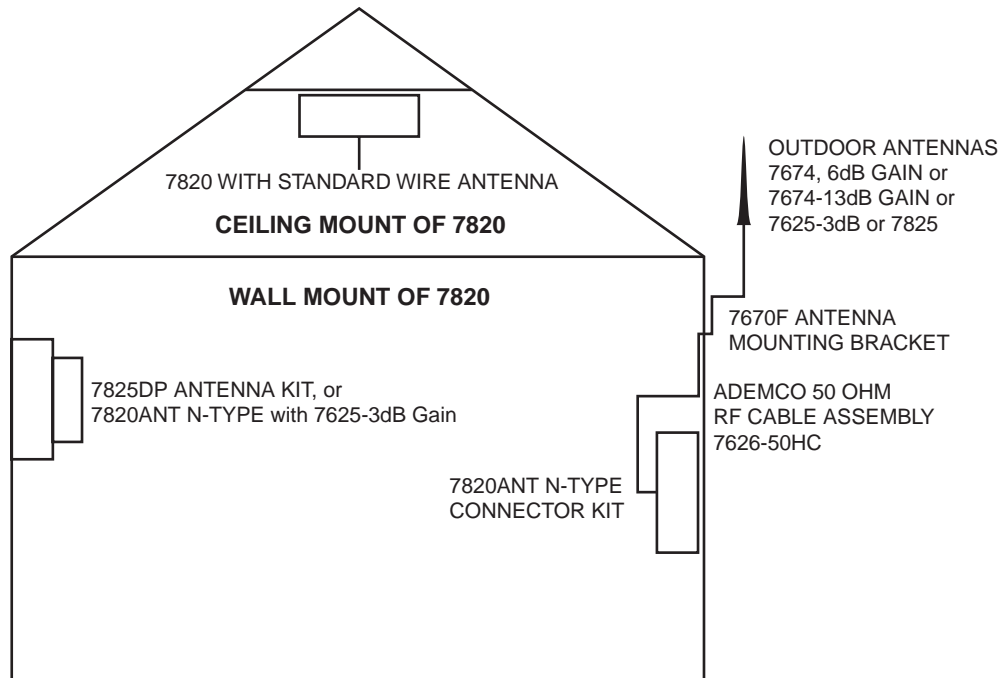

Figure 9: Ceiling and wall mount of antennas
Figure 9 displays the 7820 mounting options and the appropriate antenna hardware to be used in each of these situations.
- 5) Mount the ADEMCO antenna cables (see Figure 9).